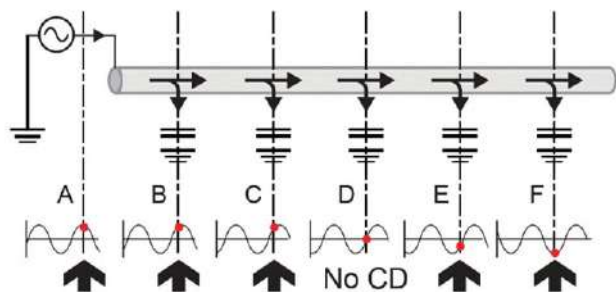

Figure 10.2: CD reset
Figure 10.2 illustrates a buried line with significant capacitance to ground. It illustrates the gradual phase-shift that occurs along the line. The diagram shows a reference point on each waveform. At first, the reference point occurs right on the Peak of a positive half cycle (A). It gradually moves towards the zero crossing point (D) and ends up on the Peak of a negative half cycle (F). The direction has shifted from forwards to backwards. At the intermediate point (D) the current flow cannot be determined. At this point the CD arrows on the MRXG Marker locator will flash on and off. In the example shown in the illustration, by returning to (C) which is the last point at which a CD reading was achieved, and performing a CD reset, the response at (C) will be equivalent to that of (A).